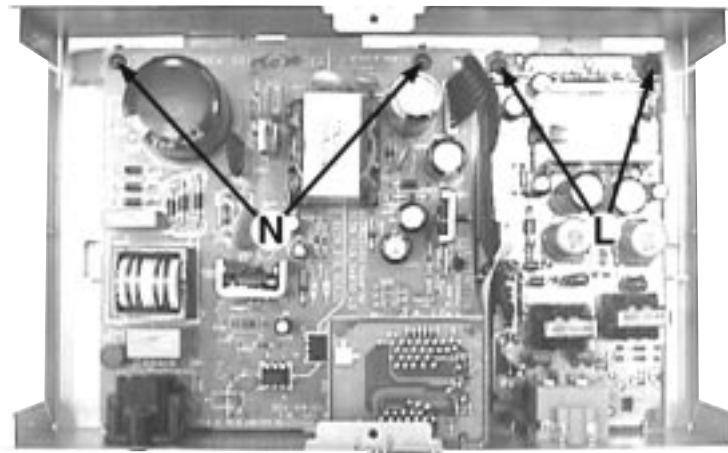
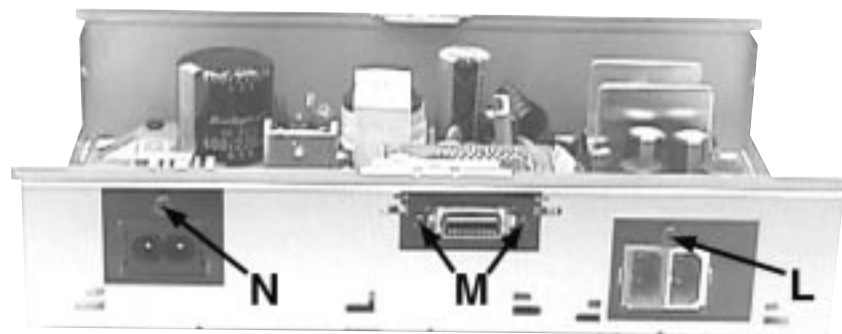

Figure 11
Figure 12
- 1) Remove 3 screws L (see Figure 11 and Figure 12) to loosen the Amplifier Board (pos 1102).
- 2) Remove 2 screws M (see Figure 12) to loosen the Interconnect Board (pos 1103).
- 3) Remove 3 screws N (see Figure 11 and Figure 12) to loosen the Supply Board (pos 1101).